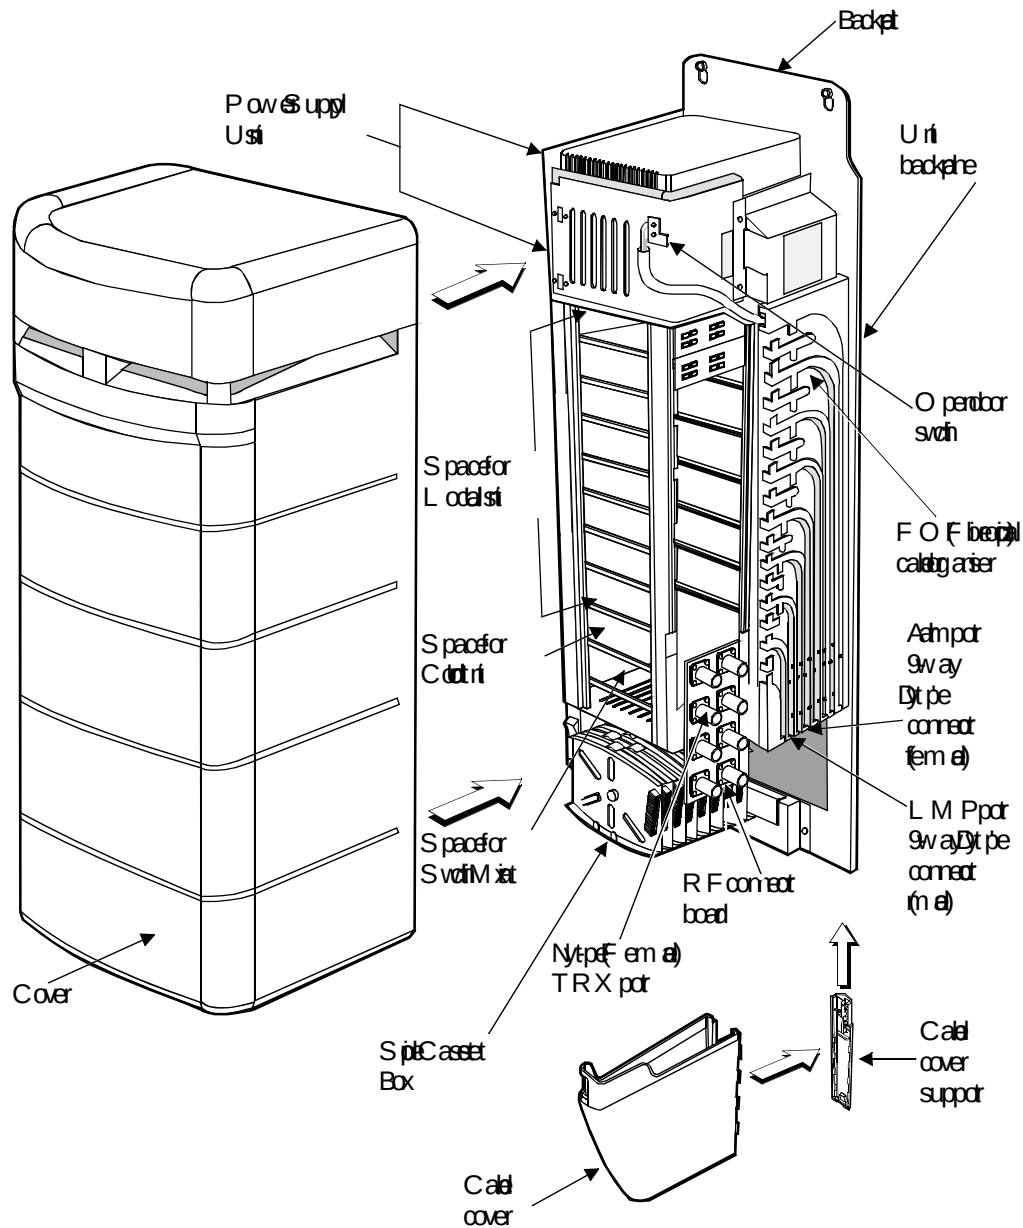

Figure 2 Multi-slot assembly cover and cable cover
5. Position the U-plate (refer to Figure 2) onto the second lower holes (R3 and R4). Make sure the U-plate is in the correct position. The larger holes on the U-plate must be facing downwards as per Figure 2.